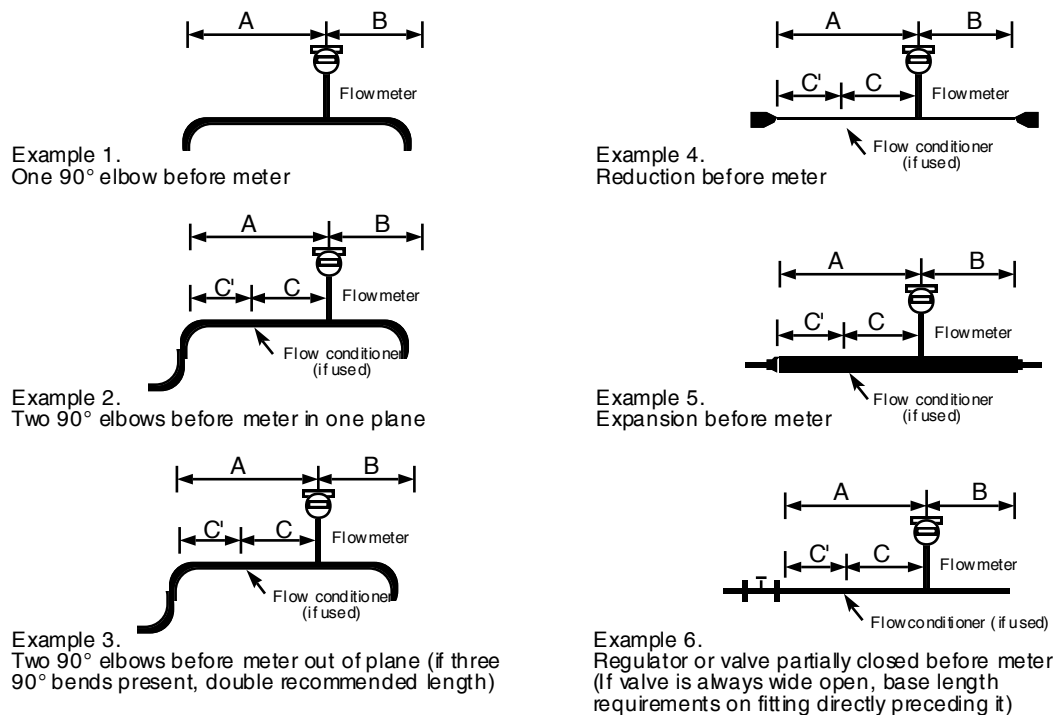

Figure 4 Recommended Pipe Length Requirements for Installation, Series DVH and DVE
2. Confirm that the installation site meets the minimum upstream and downstream pipe diameter requirements. See page 16 Figure 4.